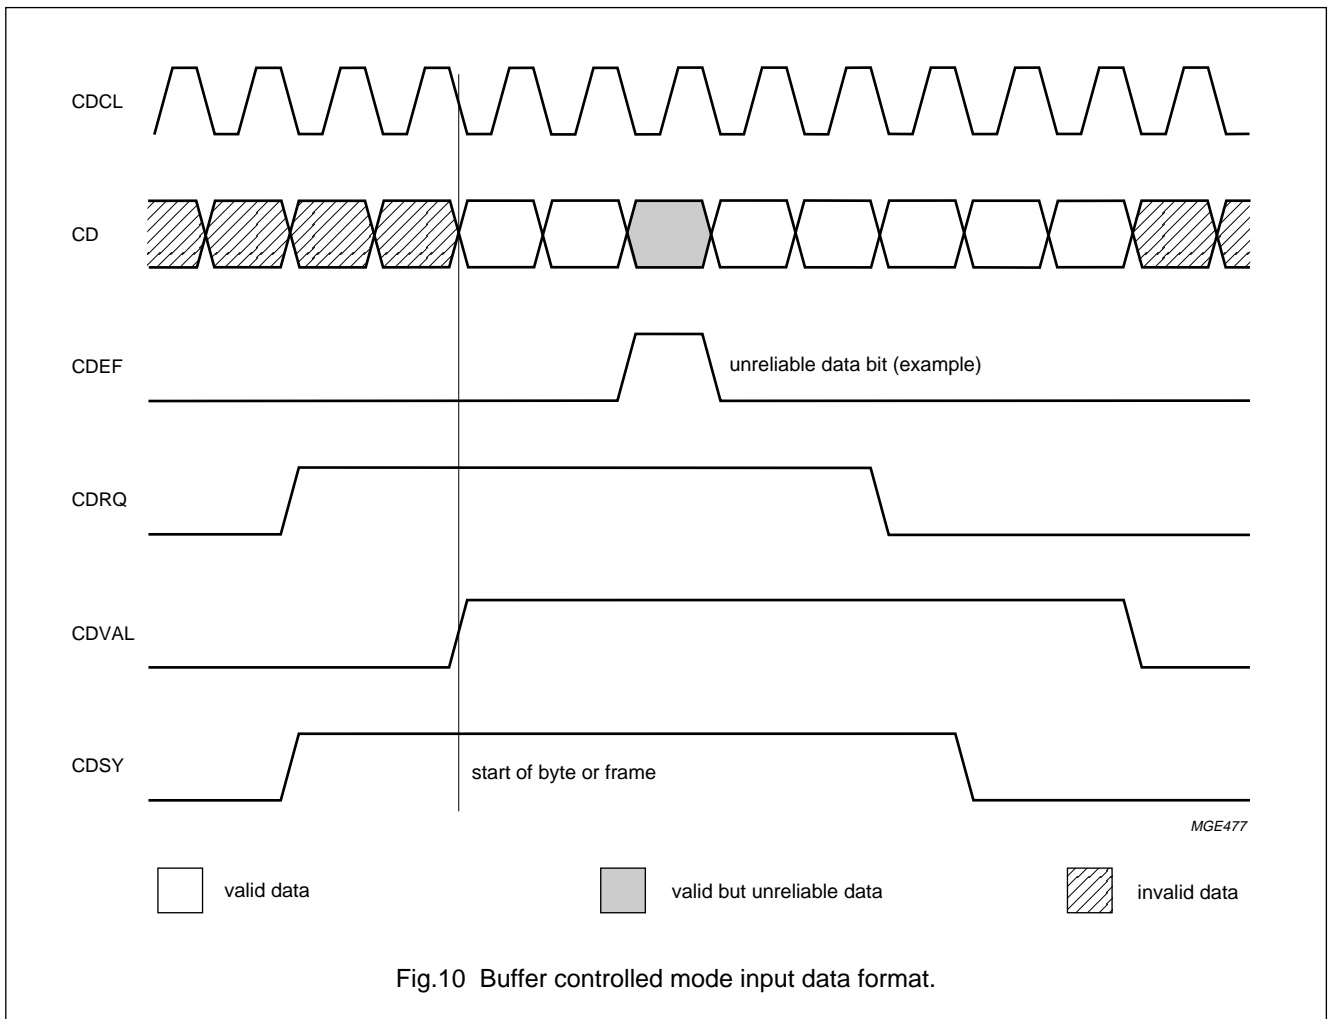

Fig.10 Buffer controlled mode input data format.
7.3.3 BUFFER CONTROLLED INPUT MODE (see Fig.10)